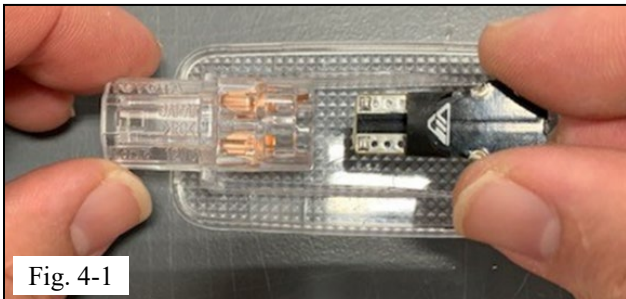

Fig. 4-1
- (a) Insert the LED bulb into the trunk light socket using a straight, inward motion (Fig. 4-1).